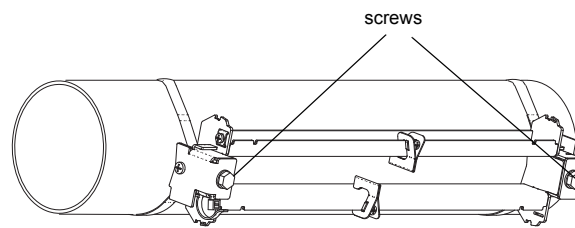

Fig. 8.35: Rail on the pipe
- Use the screws to fix the rail to the tension strap clamps (see Fig. 8.35).